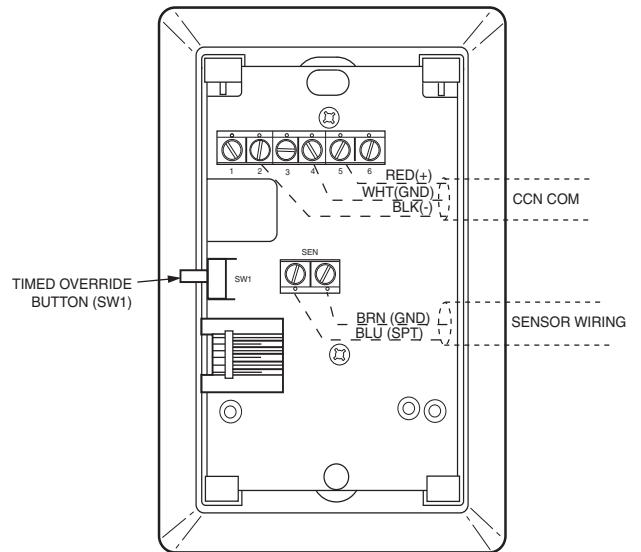

Fig. 27 — Space Temperature Sensor Typical Wiring (33ZCT55SPT)
- Space temperature sensor (33ZCT55SPT) with timed override button (see Fig. 27)